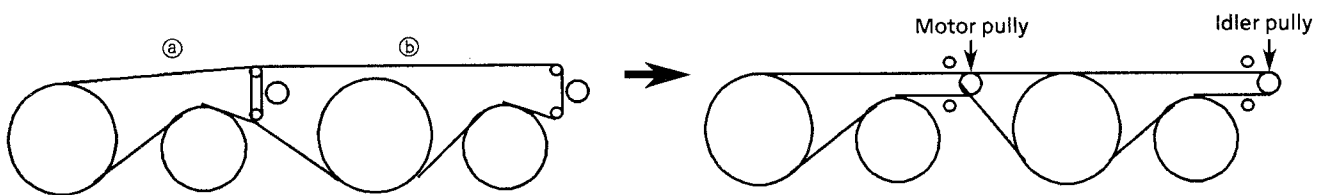

Figure 6 How to put the belts
Install the flywheel and the belts to the mechanism as shown in figure 6. (When putting the belts, put the belt ③ first.)